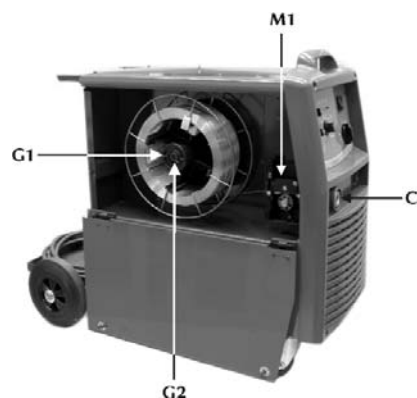

Fig.2
- a) Connect the MIG torch to the fitting (C1 fig.2), ensuring that the fastening ring is fully tightened.
- d) Unscrew the ring-nut (G1 fig.2) from the spool-holder reel and insert the spool in such way that when the external end of the wire is pulled it rotates counter-clockwise. Also insert the spool-holder reel pin into its housing, replace the ring-nut (G1 fig.2) and adjust the friction screw (G2 fig.2).
- e) Release the wire feed support of the gearmotor (M1 fig.2), sliding the end of the wire into the wire guide bush and, passing it over the roller, into the torch fitting. Lock the feed support in position, checking that the wire has entered the roller groove.